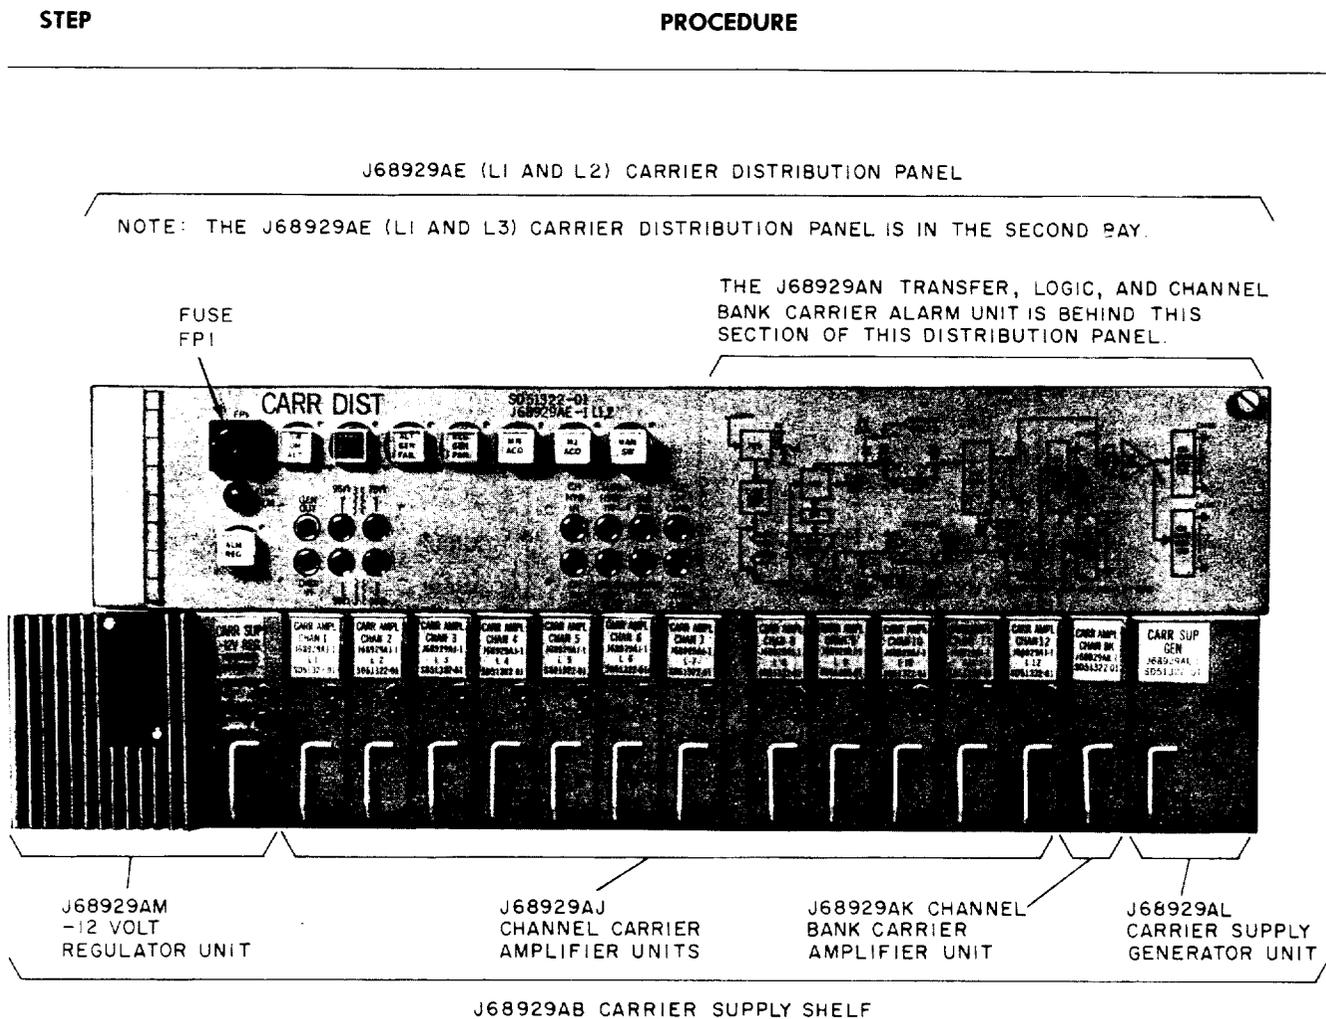

Fig. 2—A6 Carrier Supply and Distribution Panel
(b) The CARR FAIL and REG GEN FAIL lamps on the J68929AE (L1 and L2) panel (Fig. 2) are lighted.
14	Insert fuse FP1 in the J68929AE (L1 and L2) carrier distribution panel (Fig. 2). Requirement: Fuse FP1 does not blow. Note: Blown fuse FP1 indications are: (a) A lighted FUSE ALM lamp on the J68929AE (L1 and L2) panel (b) A colored tip protruding through the center of the FP1 fuse holder cap.
- 17 (a) Insert the J68929AL carrier supply generator unit (Fig. 2).
19	Insert the J68929AM carrier supply -12 volt regulator (Fig. 2).
23	Insert, one at a time, the twelve J68929AJ channel carrier amplifier units and the one J68929AK channel bank carrier amplifier unit (Fig. 2). Requirement: No fuses blow.